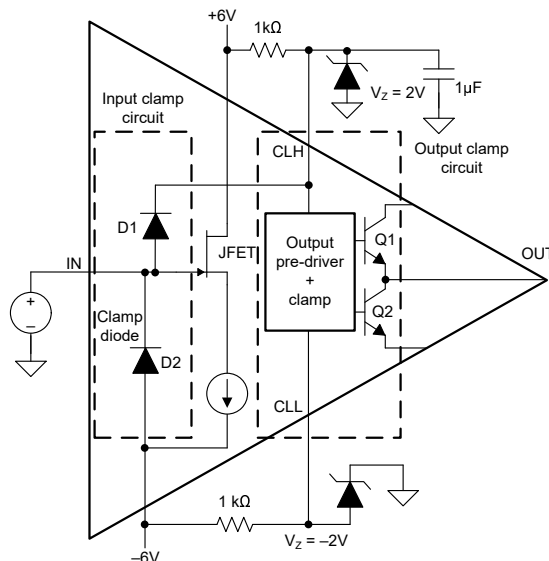

Figure 7-1. Internal Input and Output Overvoltage Clamp
- Figure 7-1 shows the input of the BUF802 tied to pins CLH and V_{S-} through two internal clamp diodes, D1 and D2. The diodes are rated for 100mA of continuous current and withstand much higher transient currents. If the JFET input voltage exceeds the voltage at CLH or V_{S-} , the diodes are forward biased, clamping the JFET to CLH and V_{S-} . A 1μF capacitor connected in parallel to the zener diode helps in transient absorption traveling through the D1 diode.